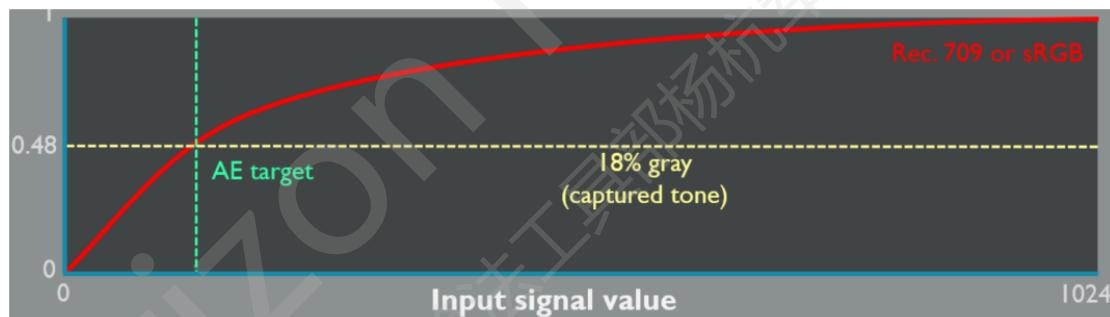

Figure 3.1-3 Correctly tuned AE target
- The value of AE\_LDR\_Target is within the acceptable range. When AE is applied, the average output value of the image histogram as Figure 3.1-3. The histogram mean should be the same as the brightness of patch 22 in ColorChecker or equal to 48% of the maximum pixel value. For example, to use Rec.709 type S-curve to enhance the contrast, the AE\_LDR\_Target value represented by the 10-bit histogram is around 256. An example of this is presented in Figure 3.1-3.